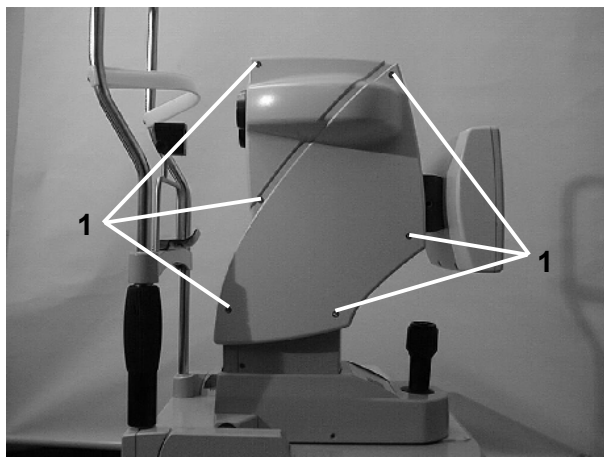

Fig. 10a
- Remove six screws ((1) Fig. 10a) and then the cover.